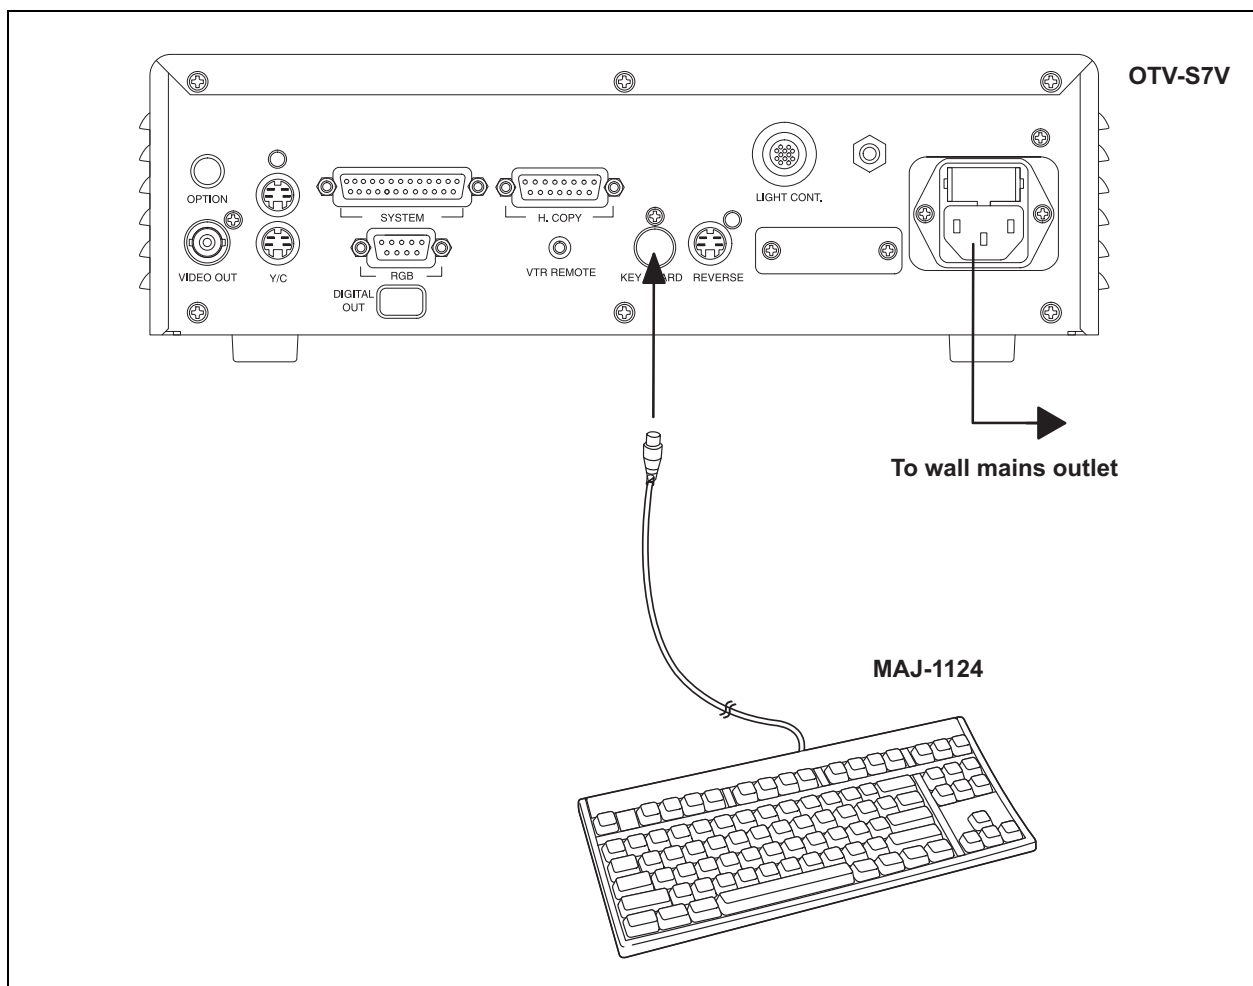

Figure 3.16
2. Connect the keyboard as shown in Figure 3.16.